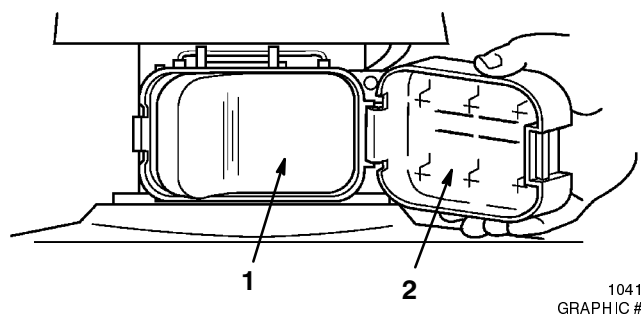

Figure 16
1. Snap the cover latch open, swing the cover to the side, and unhook it (Fig. 16).